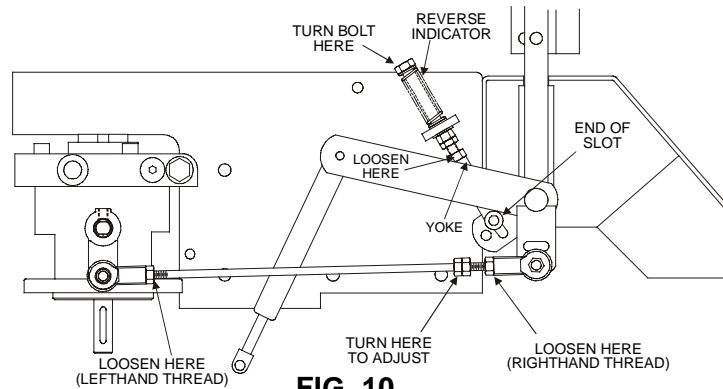

FIG. 10
- c) Begin with either the left or right motion control lever. Move lever to the neutral position and pull lever back until the clevis pin (on arm below pivot shaft) contacts the end of the slot (just beginning to put pressure on spring), See Fig 10.
- e) Loosen locknuts from the ball joints on the two rods which connect the motion control assemblies to the pump control arms (See Fig 10).
Adjust pump control rod length by rotating the double nuts on the rod in the appropriate direction until the wheels slightly creep in reverse. (See Fig 10). Move the motion control lever to the reverse position and while applying slight pressure to the lever, allow the reverse indicator spring to bring the levers back to neutral.